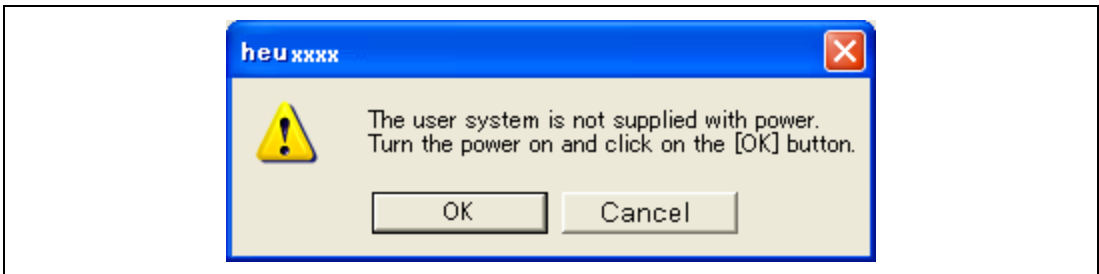
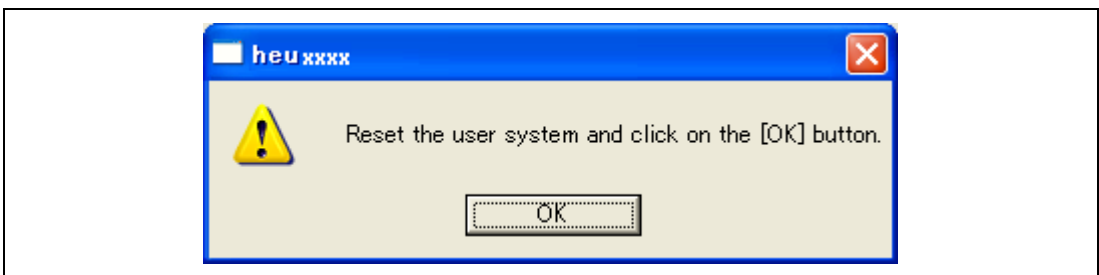

Figure 3.39 [Turn Power on] Message Box
Figure 3.40 Dialog Box of the Power-on Request Message
9. The dialog box is displayed as shown in figure 3.39 or figure 3.40.